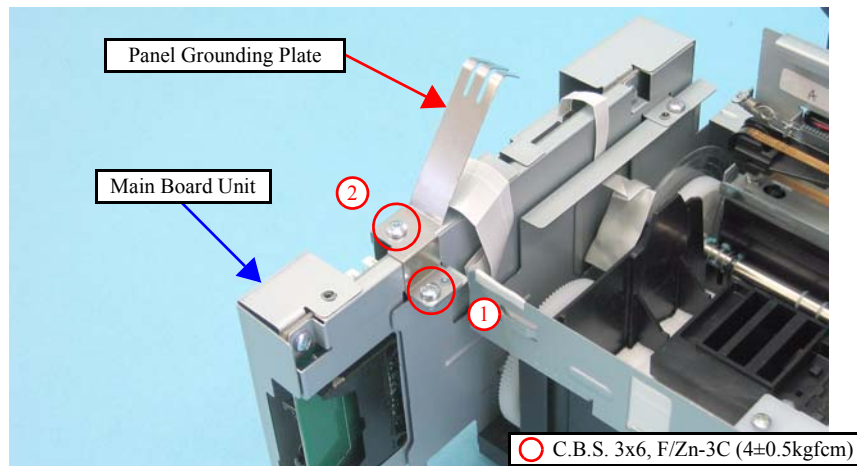

Figure 4-126. Removing the Panel Grounding Plate
- Tighten the screws in the order given in Figure 4-126.